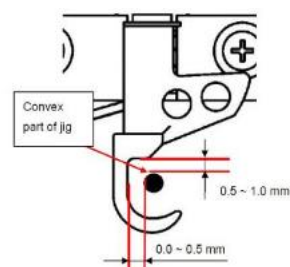

Figure 3.8 Gap between hook and jig (front side)
- Using the Hook 6 as reference position, adjust X and Z direction according Figure 3.8